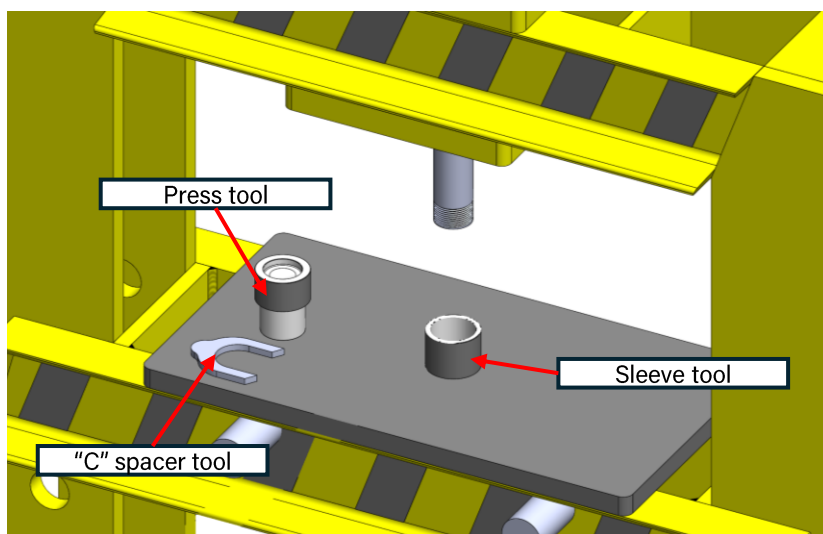

Figure 1: Sleeve located below piston
- Position the sleeve tool directly under the piston of the hydraulic press. Leave plenty of travel room to locate the upper press tool (Figure 1).